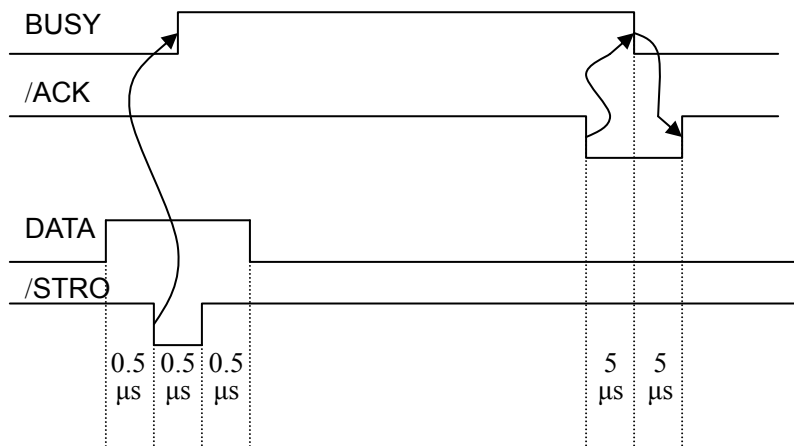

Figure D-3 Timing signal in parallel
4. Timing signal in parallel interface transmission shown as figure D-3.